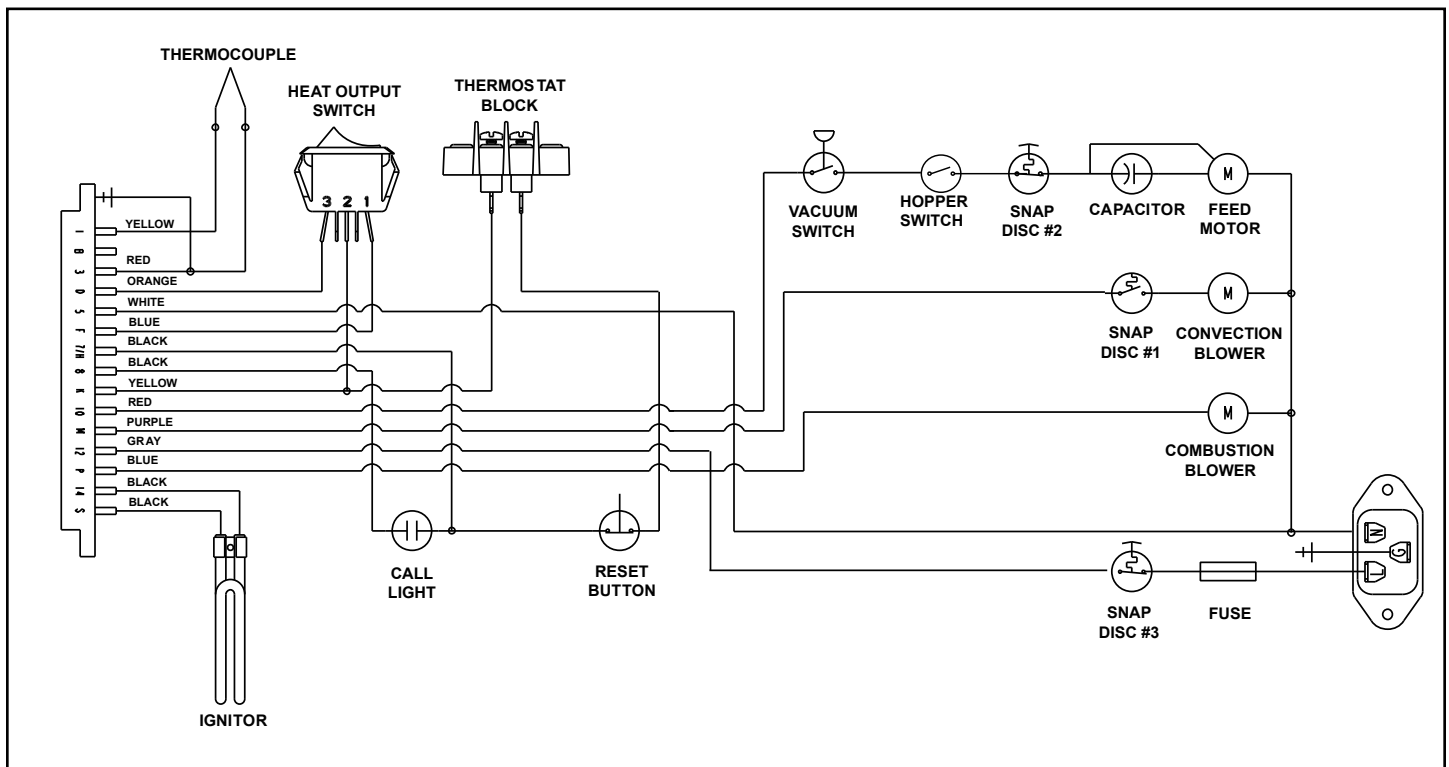

Figure 30.1
21. **Wiring Harness:** See **Figure 30.1** below.